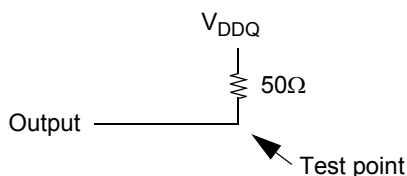

Figure 3. Pull-down slew rate test load
b. Pull-down slew rate is measured under the test conditions shown in Figure 3